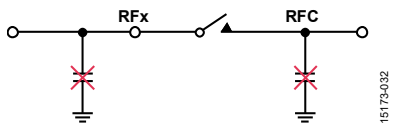

Figure 55. Avoid Connecting Large Capacitive Terminations Directly to the Switch
- Avoid connecting large capacitive terminations directly to the switch. A shunt capacitor can store a charge that can potentially give rise to hot switching events when the switch opens or closes, affecting the lifetime of the switch. Figure 55 shows where to avoid large capacitive terminations.